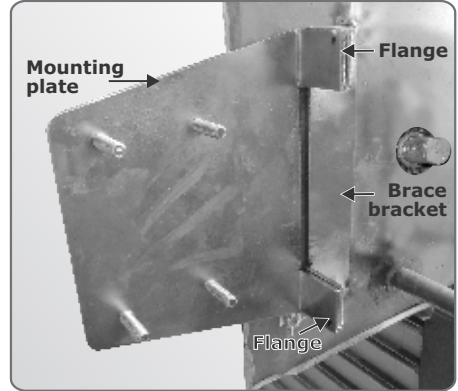

FIGURE 23
7. Tack-weld the flanges of the mounting plate onto those of the brace bracket as shown in Figure 23, giving special consideration to available space and the direction that the operator will face.